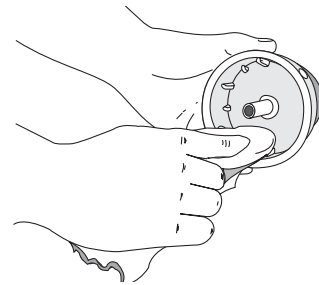

Fig. 25
4. Use a clean cloth to clean the the inner reel, spring, shaft and inner surface of the outer spool (Fig. 25).